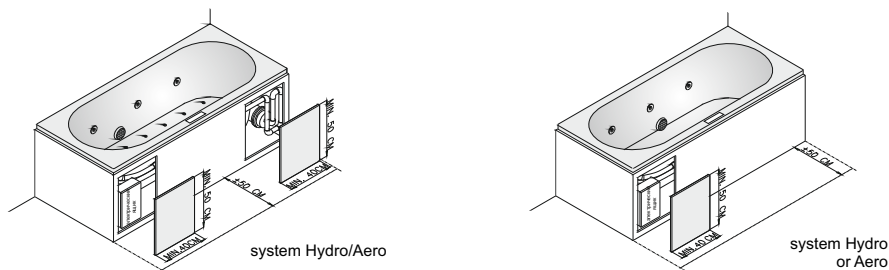

Figure 5 Inspection hatch(es)
- Inspection hatch(es) of at least 40 x 50cm for service access (at least to the motors). In front of the openings, a space of at least 50 cm width must be freely accessible for access to the technique - see Figure 5. Riho recommends that an inspection hatch should be placed near the overflow opening.
To enable maintenance the tub panel or wall must be fitted with a splash-proof hatch with a size of at least 40x50cm. Such an opening must be positioned close to each engine and heater. In front of the openings, a space of at least 50 cm wide for access to the electronics must be freely accessible. See figure 5. See the RIHO Technical Catalog for the exact position of the holes. The Riho maintenance service cannot service the motors if there are no inspection hatches or if the hatches are too small. For the best accessibility to the system Riho advises you use cover front panels (if available for the bath type). System Sparkle Mood does not require inspection hatch. Servicing Sparkle Mood tubs is done by moving (tilting) whole tub away from wall – install the tub according to this information